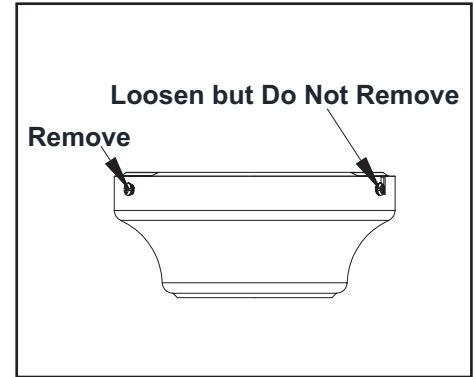

Figure 5
1. Remove the mounting bracket from the canopy by loosening the four screws on the top of the canopy. Remove the two non-slotted screws and loosen the slotted screws. This will enable you to remove the mounting bracket. (Figure 5)